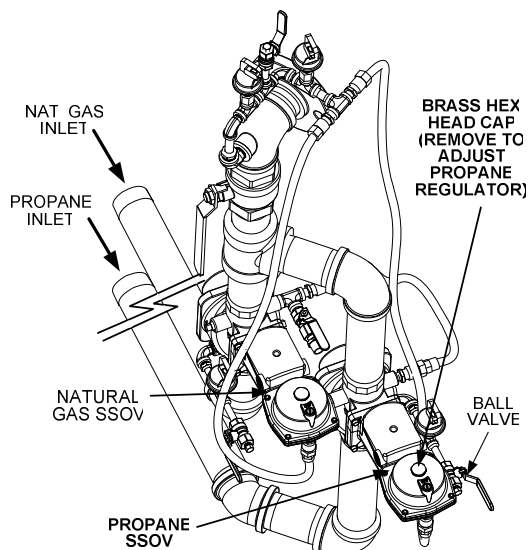

Figure 4-7
13. Next, increase the fire rate to 75%. Verify that the gas pressure downstream of the propane SSOV is 2.1" W.C. for both FM and IRI gas trains. If gas pressure adjustment is required, remove the brass hex head cap on the propane SSOV (Figure 4-7). Make gas regulator adjustments using a flat-tip screwdriver to obtain 2.1" W.C.